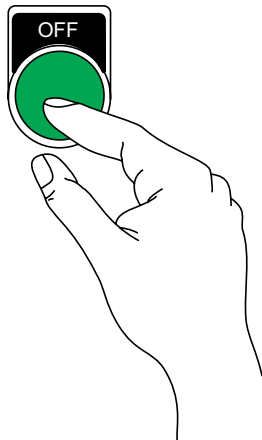

Figure 24. Main Circuit Breaker OFF Switch
1. Press the main circuit breaker “OFF” pushbutton switch (Figure 24).